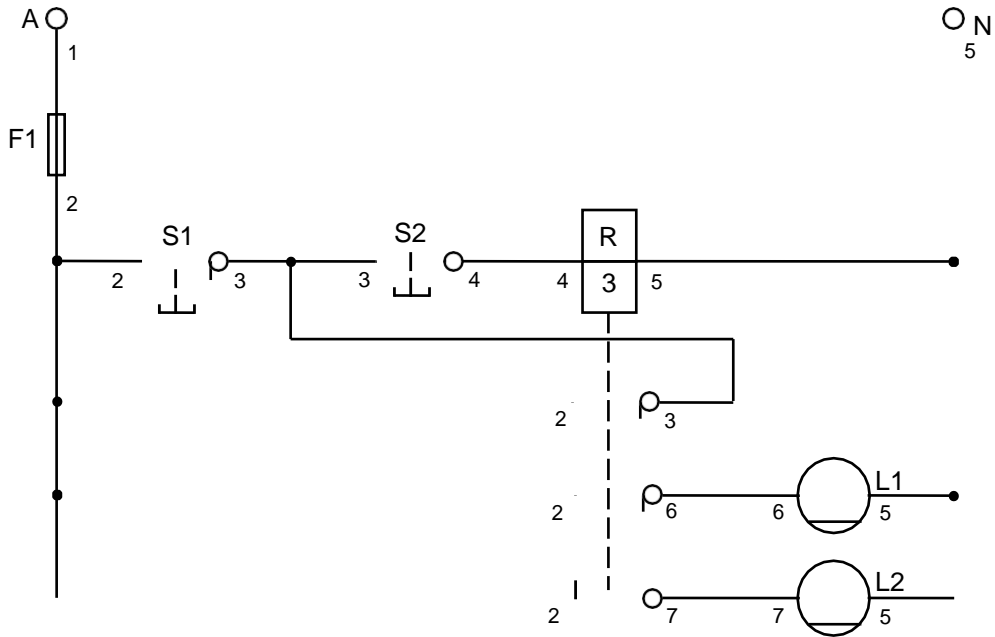

Figure 1
12. Describe the operation of the circuit shown in figure 1. Assume the circuit is originally de-energised.